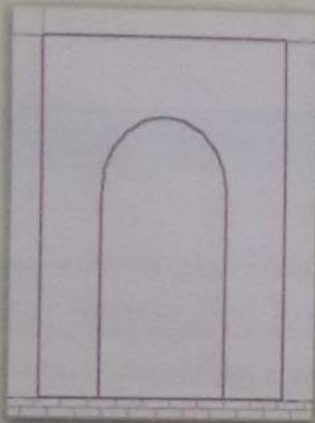

Figure 86: Wall Opening Profile.
3. Create Arch opening using draw tools (Figure 86).